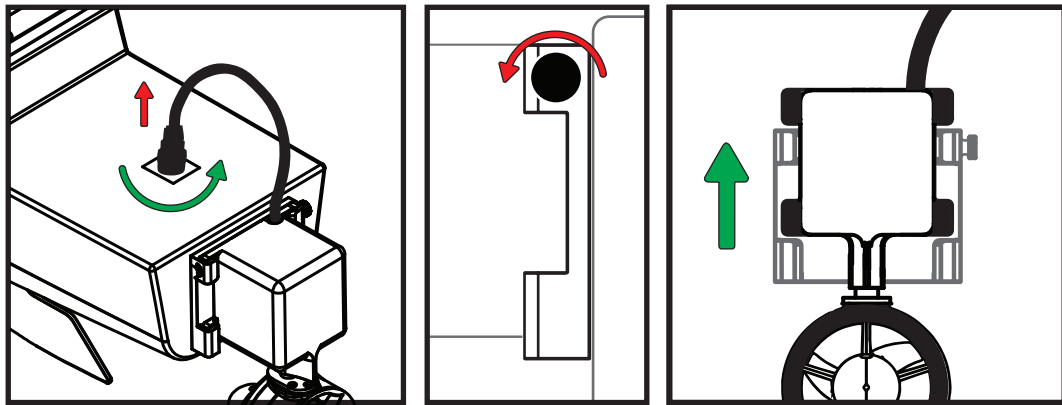

Figure 63: Thruster Removal
1. Remove the Thruster from the pontoon. (Figure 63)